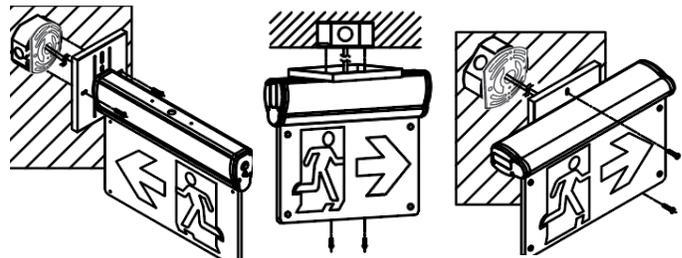

Fig. 4
6. Connect canopy to junction box mounting plate with provided screws (Fig. 4).
7. Make wiring connections according to the wiring diagrams on page 1. Choose the applicable wiring diagram. For self-powered (SP) models, ensure that the internal battery is connected to the circuit board. **CAUTION!** Failure to insulate any unused wires may result in a shock hazard or unsafe condition as well as equipment failure.